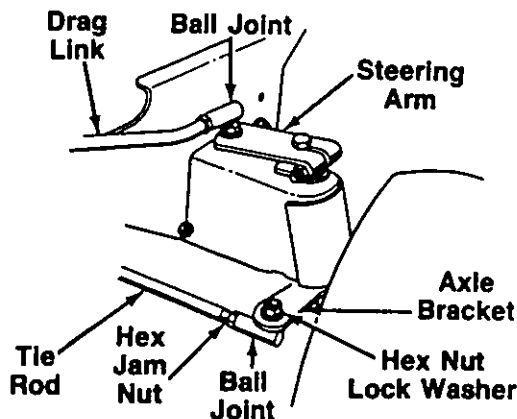

FIGURE 19.
1. Remove the hex nut and lock washer, and drop the end of the tie rod from the axle bracket. See figure 19.
To take off the drag link, remove the nuts and lock washers holding the ball joint to the steering gear and right front axle bracket. See figure 19.